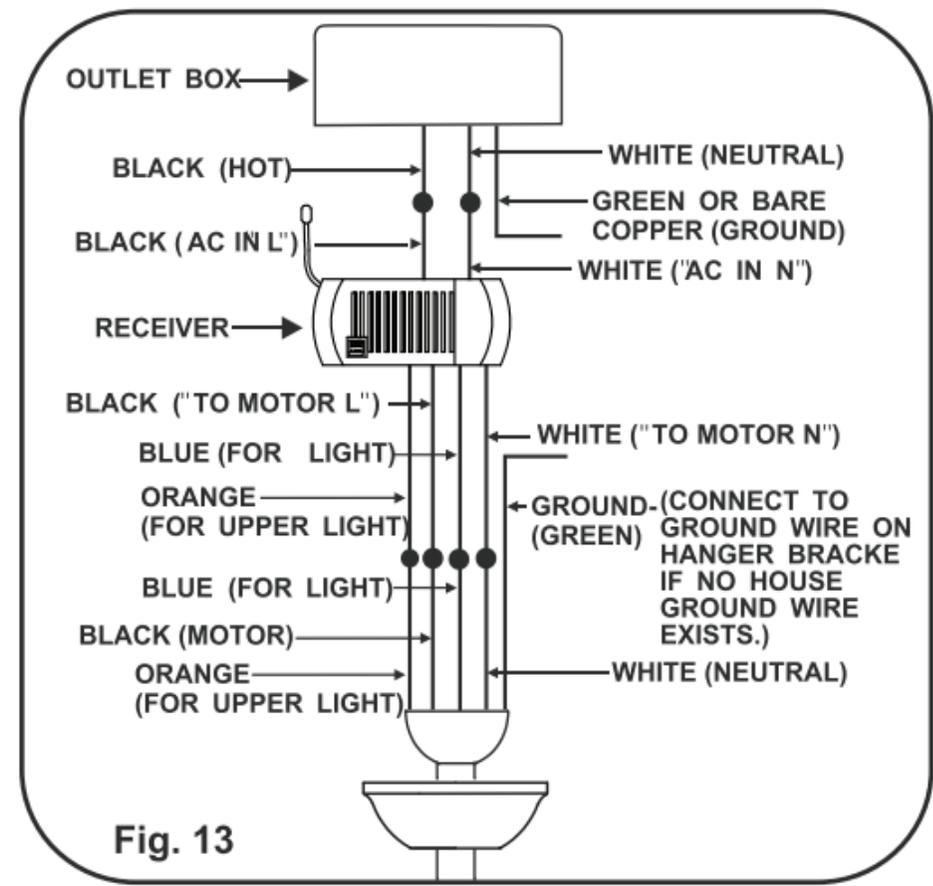

Fig. 13
NOTE: If your ceiling fan features an UP Light: Connect the ORANGE wire from the fan to the ORANGE wire marked "For Up Light" from the Receiver. Otherwise disregard this step and proceed to secure all wire connections with the plastic wire nuts provided.(Fig.13)
Step 3. Receiver to House Supply Wires Electrical connections: Connect the **WHITE** wire (Neutral) from the outlet box to the **WHITE** wire marked "AC in N" from the receiver. Connect the **BLACK** wire (Hot) from the outlet box to the **BLACK** wire marked "AC in L" from the receiver. Secure all wire connections with the plastic wire nuts provided. (Fig. 13)
Step 4. If your outlet box has a **GROUND** wire (Green or Bare Copper) connect this wire to the Hanger Ball and Hanger Bracket Ground wires. If your outlet box does not have a Ground Wire, then connect the Hanger Ball and Hanger Bracket Ground Wire together. Secure wire connection with the plastic wire nut provided. (Fig. 13)